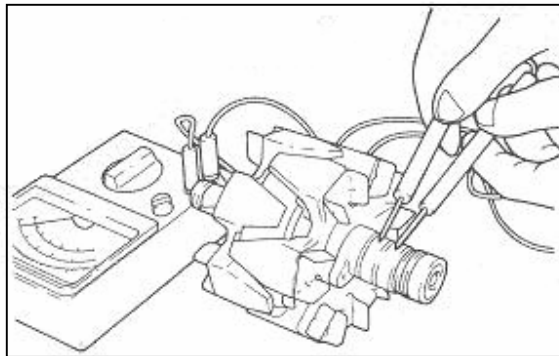

Fig. 9-40
(1) Rotor assembly
- ① Check that there is continuity between rotor coil and slip rings. If resistance exceed standard value, replace rotor (see Fig.9-40) .